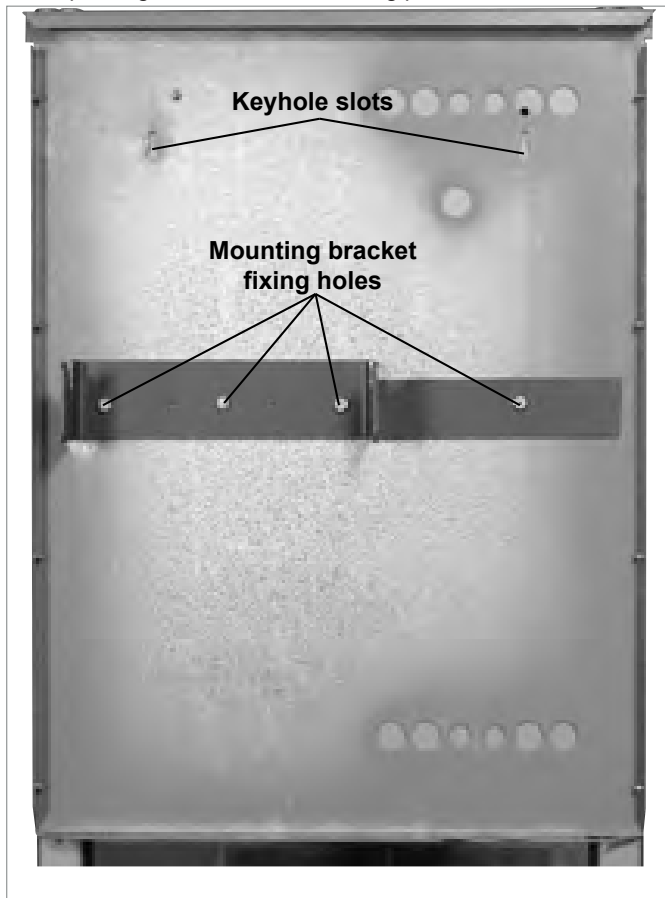

Figure 4-7: Mounting bracket and fixing holes in position on back panel
Figure 4-7 shows the mounting bracket in position on the back casing panel, with the holes in the bracket in-line with the corresponding holes in the back casing panel.
2. Locate and hold the back panel in the required position on the wall. Check it is level using a spirit level on the top flange. Mark position of the holes for the two keyhole slots (See Figure 4-7). Remove the back panel from the wall.